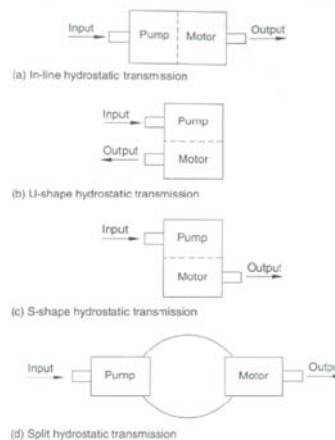

FIGURE 6.10
- In-line (Fig 6.10 a)
- U-shape (Fig 6.10 b)
- S-shape (Fig 6.10 c)
- Split (Fig 6.10 d)